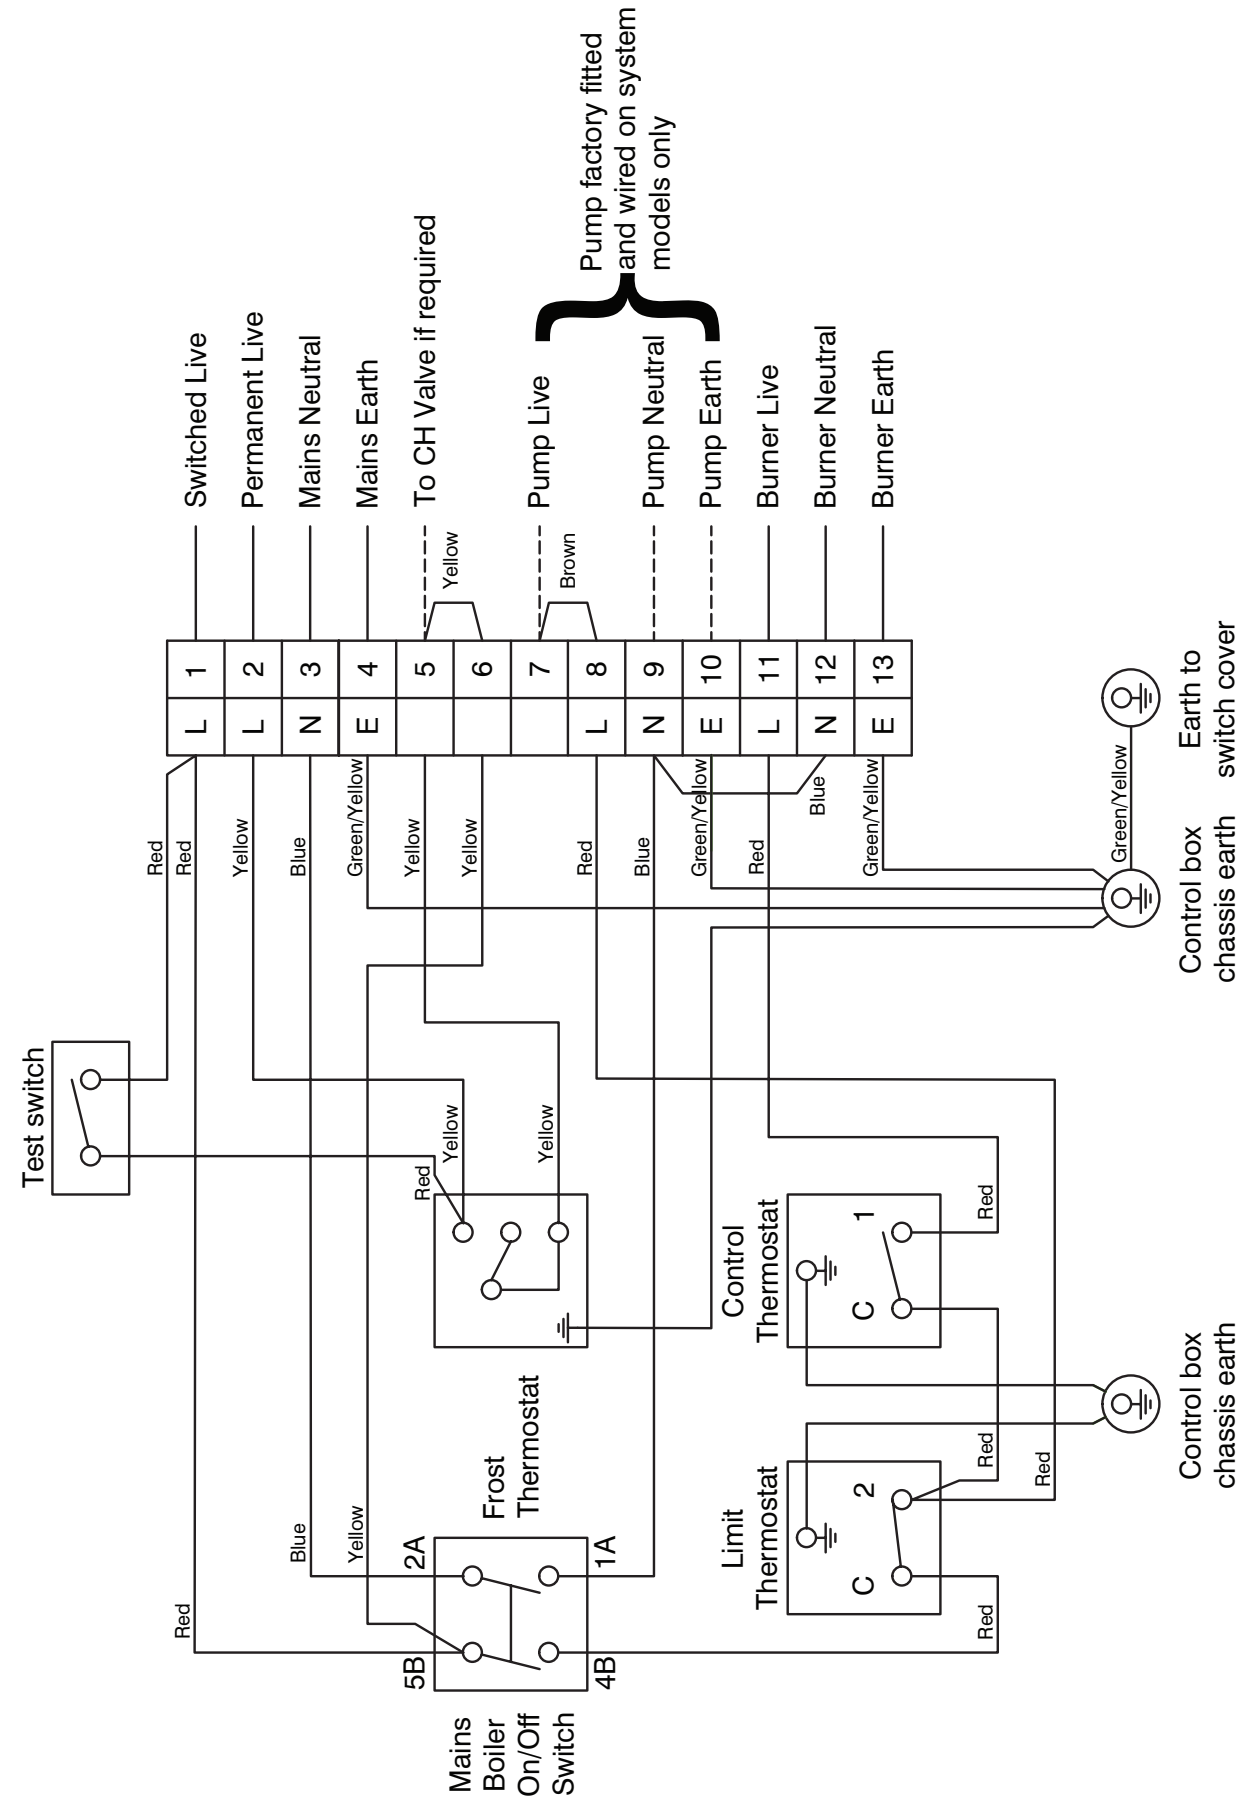

Figure 8-2: Vortex External Module control panel wiring diagram
Refer to Figure 8-2 for control panel wiring diagram for all Vortex Pro External models.
7. Make the remaining required connections to the control panel, as detailed in Figure 8-2. Tighten the cable clamp and refit the front of the control panel and terminal block cover, taking care not to trap any wires.